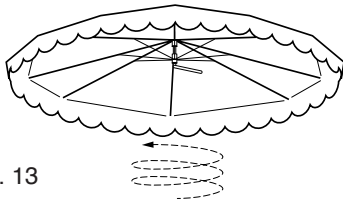
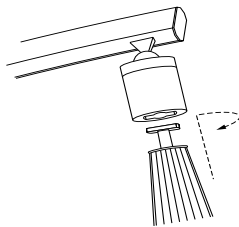

fig. 13
fig. 14
2. To remove or disengage sunshade from ball joint & socket, loosen lever with at least three revolutions (fig 13). This will allow enough clearance for the t-piece and socket to be separated from each other. To close sunshade hold onto runner with one hand and pull locking lever down with other hand. Disengage t-piece from ball joint & socket by pushing up slightly and turning a quarter turn (fig. 14).